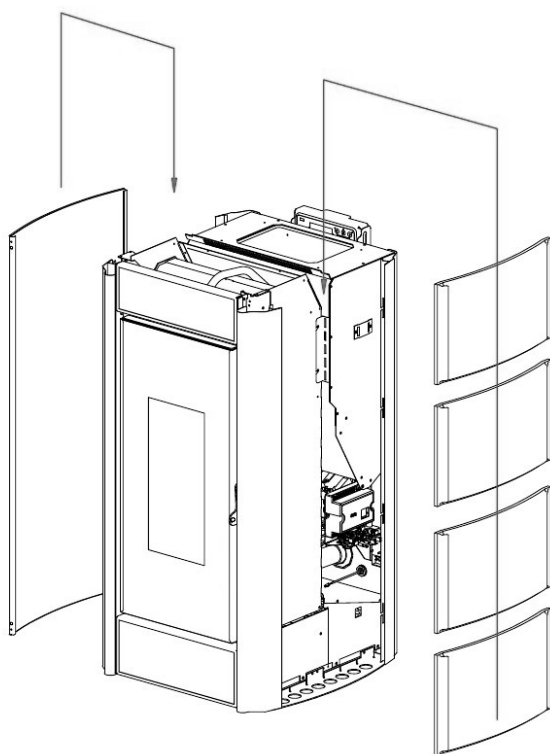

Fig. 35 - Insert side panels
- Insert the side panels into the corresponding guides letting them slide slowly down to the base (see **Fig. 35**).